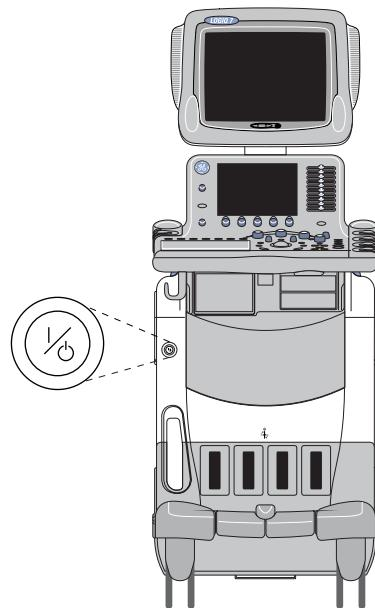

Figure 4-2 Power On/Off Standby Switch Location
- 1.) Press the **ON/OFF** key at the front of the System for about two (2) seconds. Refer to Figure 4-2 on page 4-3.